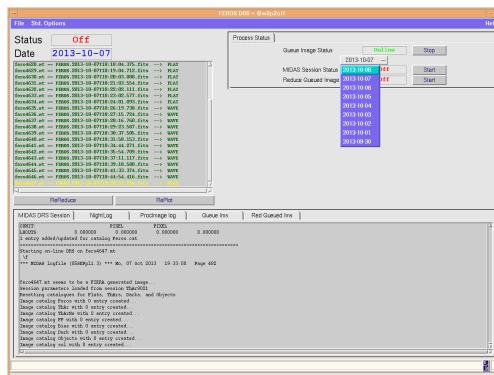

Figure 1.6: Changing the date of the **FEROS DRS**.
7. On the FEROS pipeline screen, set **DRS** to the right date (Fig 1.6).